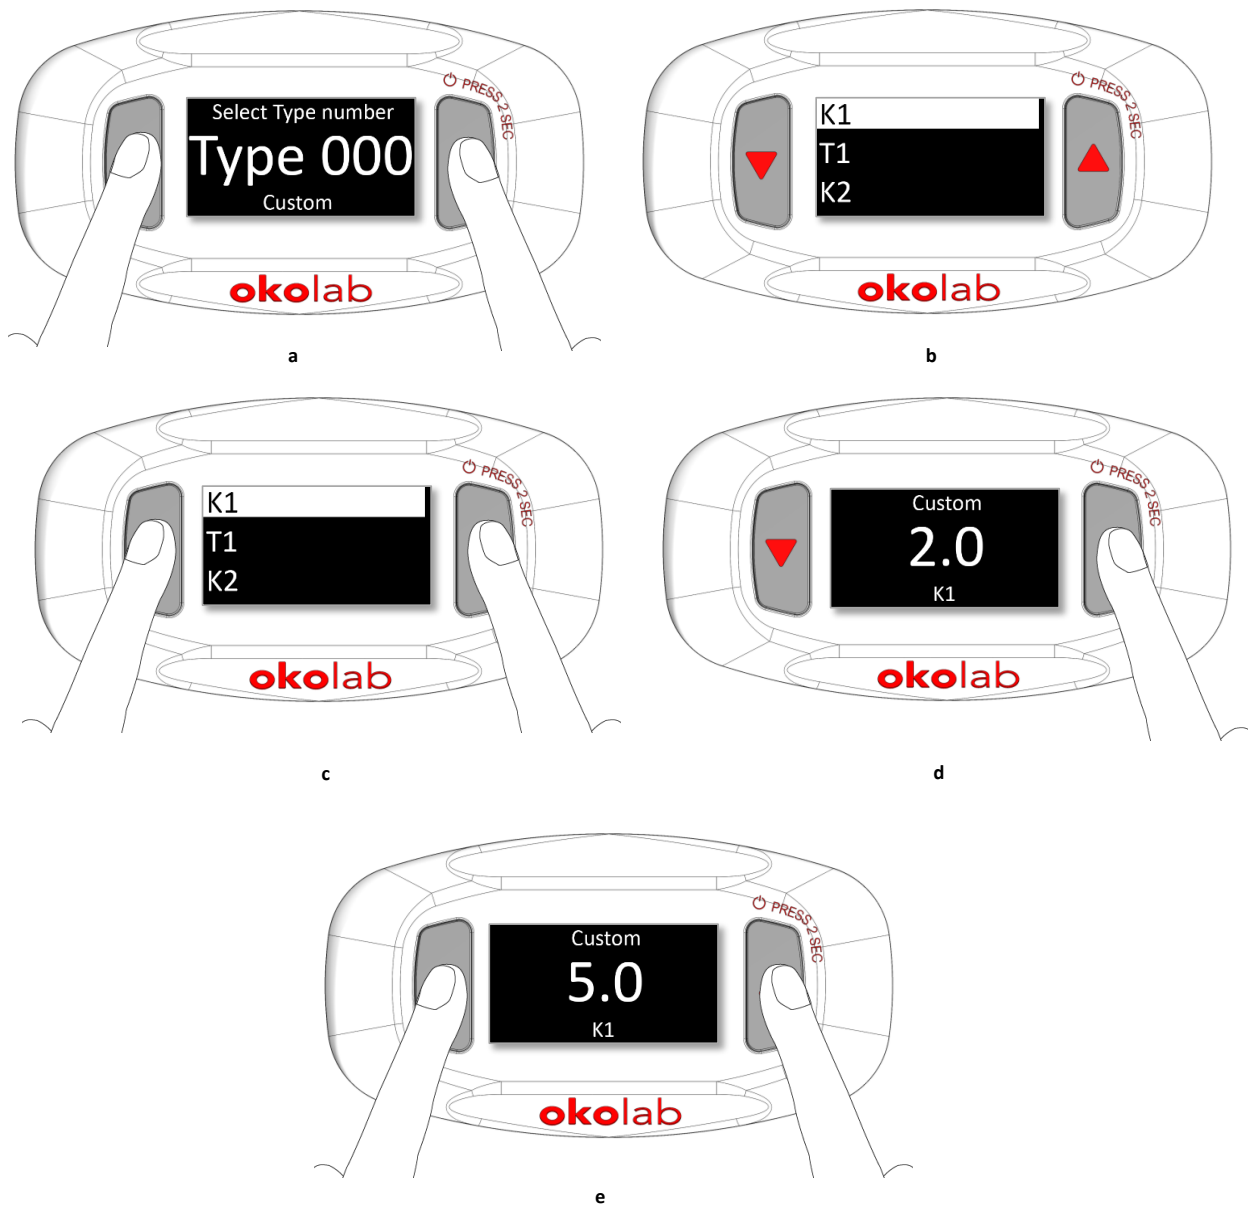

Figure 17. Custom Device Type 000: how to set the control parameters (a – b – c – d - e).
1. Press UP & DOWN buttons at same time for 1 second (see Figure 17 a) to enter the list of control parameters (see Figure 17 b).
3. Press UP & DOWN buttons at same time for 1 second to enter  $K1$  subpage (see Figure 17 c).
4. Use UP button to increase (or DOWN button to decrease) the  $K1$  value (as shown in Figure 17 d).
5. Press UP & DOWN buttons at the same time for 1 second to confirm (see Figure 17 e).